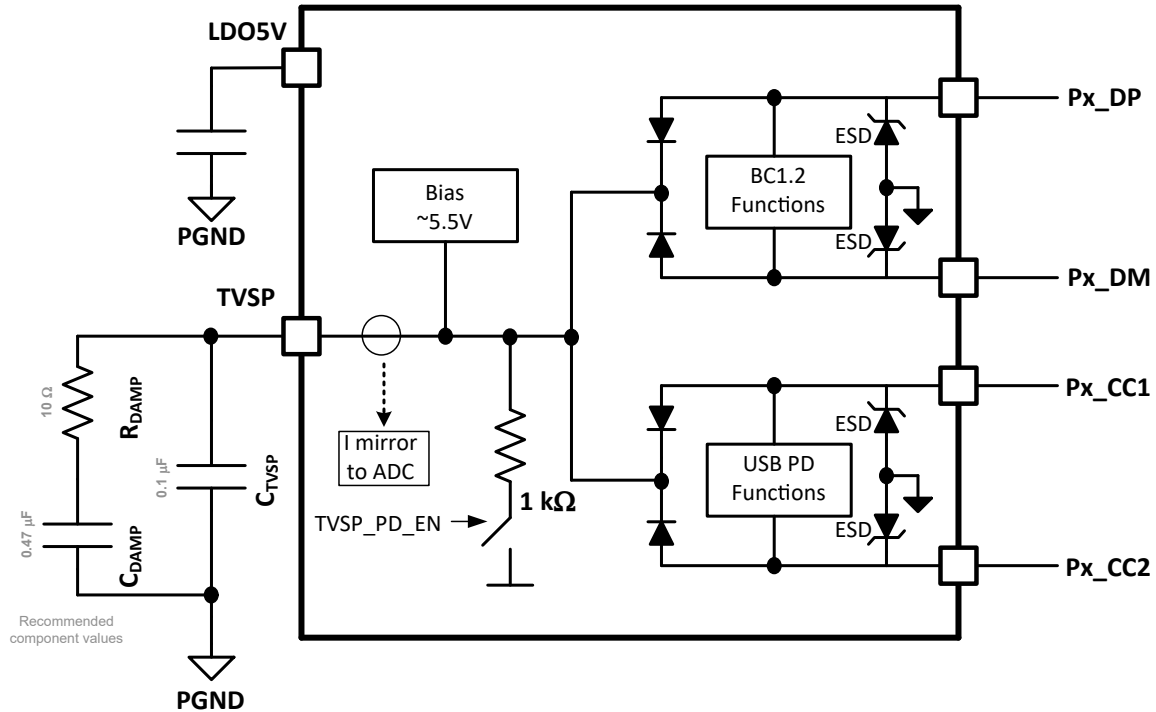

図 9-4. Basic TVSP Pin Connection
- **$R_{TVSP}$ :** At power on, the resistance between the TVSP pin and PGND determines the boot method, USB PD port I2C addresses and I2C logic thresholds. Refer to 表 9-4 and 表 9-5. The most common configuration is shown in 図 9-4 with  $R_{TVSP}$  open, corresponding to TVSP Index 0. During device initialization and boot, typically within 4 seconds after power on,  $V_{IN}$  must be above 7.6 V to ensure proper bias of the TVSP pin to 5.5 V. Once boot is complete the device can operate over the full  $V_{IN}$  range.